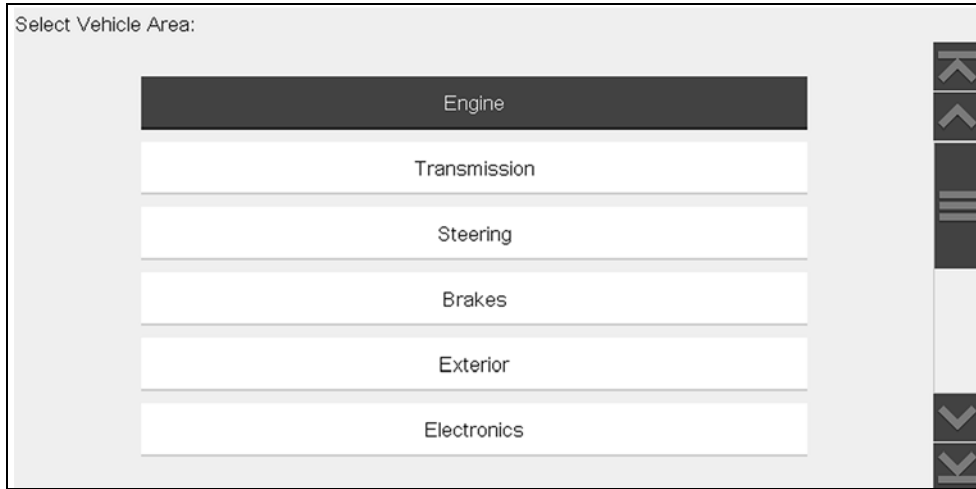

Figure 8-2
3. Select a vehicle area, (e.g. **Engine, Transmission, Brakes**, etc) (Figure 8-2).